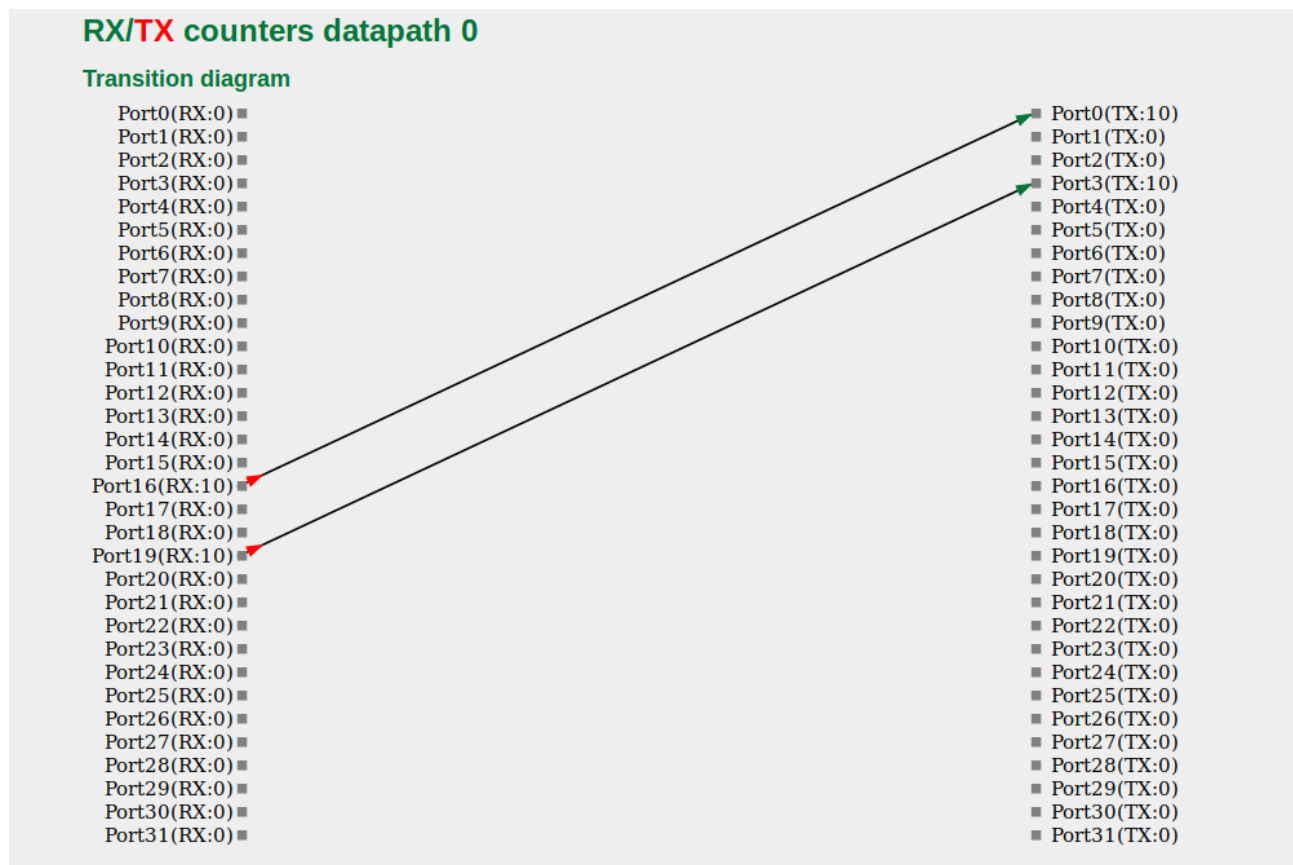

Figure 2: Inport-Outport Transition diagram for datapath 0
Missing arrowheads signal a packet loss. The numbers behind the Port designations indicate the packets flowing per second. "0" means, there are no packets flowing. For instance, there are 10 packets flowing from each Port19(RX) and Port 16(RX) to Port0(TX) and Port3(TX) (see Figure 2 ).